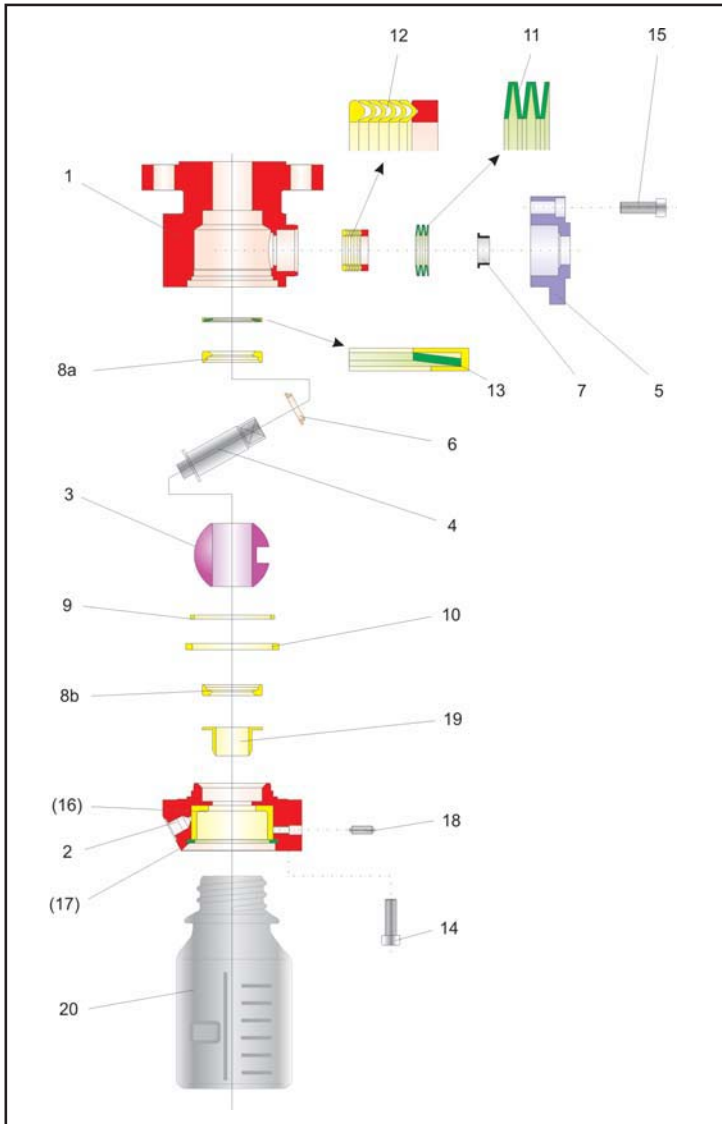

Fig. 3 - Explosion drawing of the sampling valve series 27k
**Note:** The position and arrangement of the individual parts shown in the explosion drawing (fig. 3) must be strictly adhered to when assembling the valve.
The assembly starts with the main body ( 1 ). Insert the lined spring washer ( 13 ) into the main body ( 1 ). The assembly position can be taken from the drawing ( Fig. 3 ).
Refer to the explosion drawing ( Bild 3 ) for exact positioning of the V-rings.
The spring washers ( 11 ) are placed on the packing. The positioning of the spring washers can also be taken from the explosion drawing ( Bild 3 ).